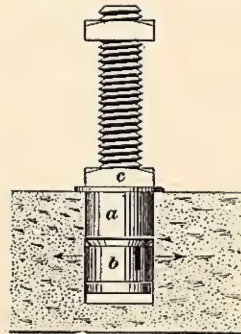

FIG. 38
- 57.** Attachments may be made to stonework by means of expansion bolts, as shown in Fig. 38. These bolts are provided with a loose ring *a*, having its lower edge beveled, and a notched ring *b* of soft metal. A hole is drilled in the stone large enough in diameter to fit the bolt closely, and the bolt is pushed in to the depth required. The nut *c* is then screwed down and the ring *a* is forced into the end of the soft ring *b*, which is thereby expanded against the sides of the hole. These bolts are less liable to split the stones than those that are calked with lead, because the directions of the forces exerted in securing this bolt are mainly in directions parallel with the surface of the slab and in the middle of its thickness, as shown by the arrows.